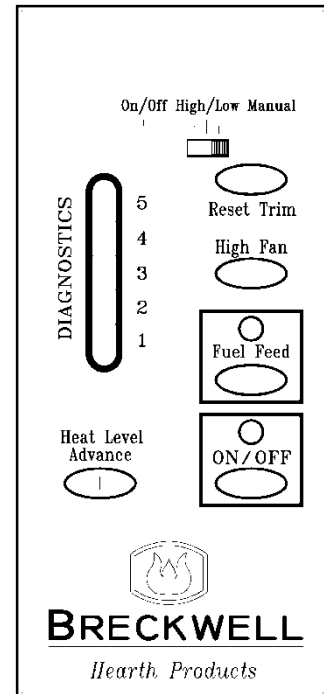

FIGURE 11
PANEL CONTROLS (See Figure 11)
- The green light located above the On/Off button (in the On/Off box) will flash during the ignition start-up period. (See figure 11)
(See figure 11)